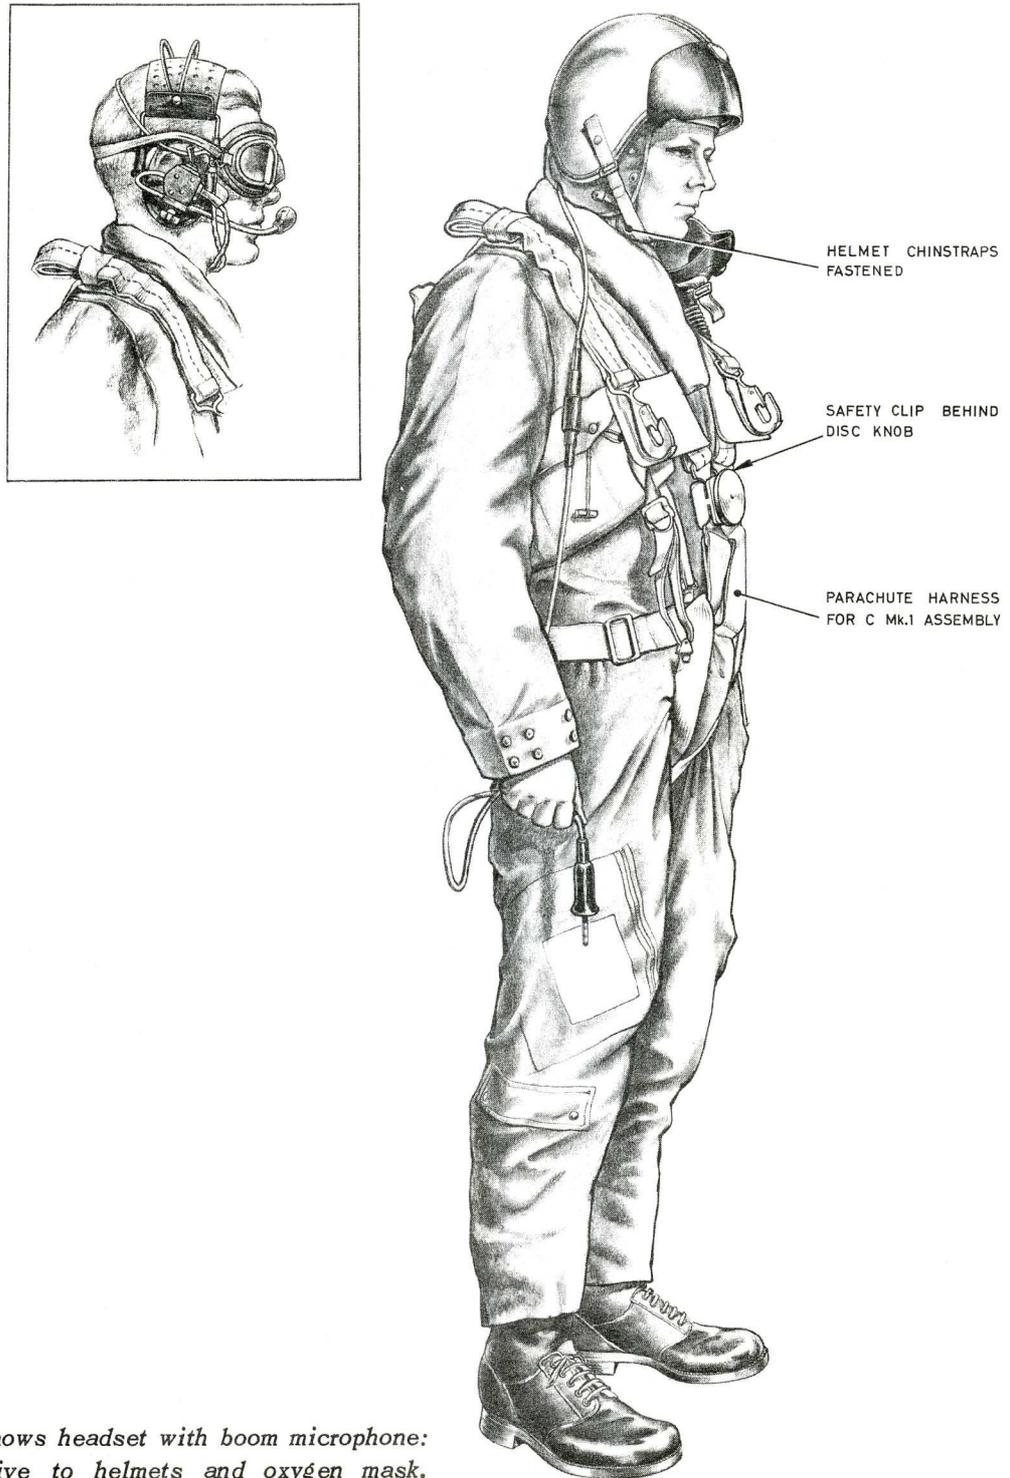
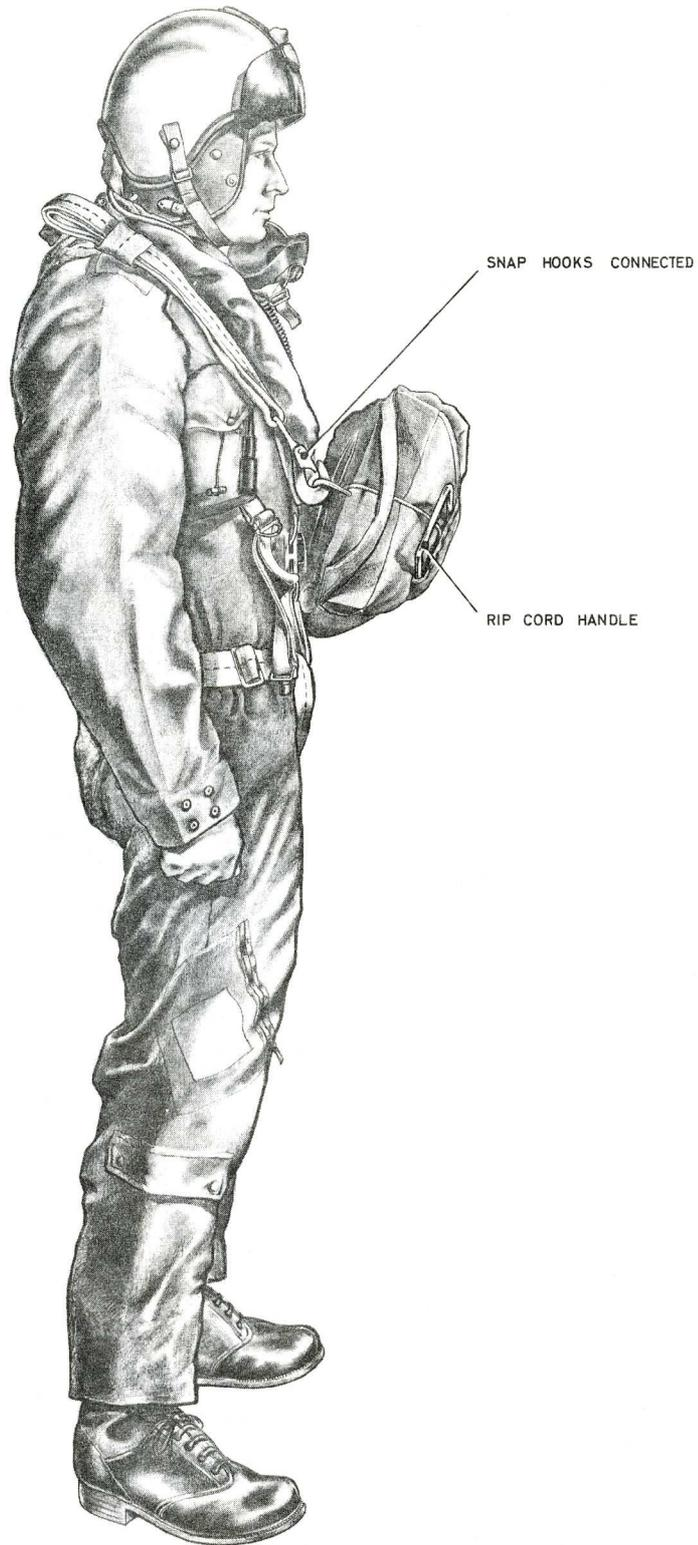

Fig. 1. Fitting the aircrew assembly: Stage 1: parachute harness assembled
Fig. 2. Fitting the aircrew assembly: Stage 2: parachute pack attached
4. The equipment of the crew member is fitted in two stages. Fig. 1 shows the fitting of the parachute harness, Stage 1. The crew member is shown here in flying helmet Type G and protective helmet Mk.1A with visor; when using a boom type microphone (shown inset), goggles are used in place of the helmets and oxygen mask. Stage 2 of the fitting is shown in fig. 2 and consists in attaching the parachute pack to the parachute harness. To fit the parachute harness proceed as follows:-